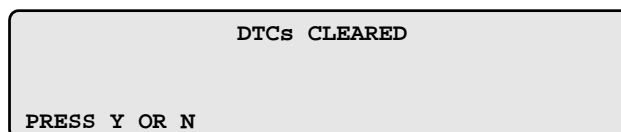

Figure 4-37 Typical ABS codes cleared screen message
4. The DTCs Cleared screen appears (Figure 4-37)